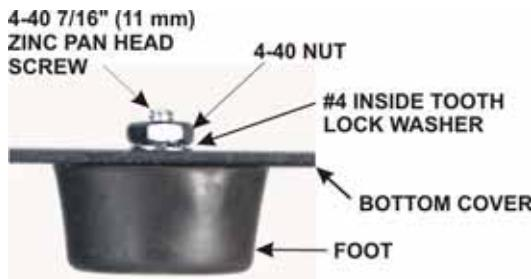

Figure 83. Installing Rear Feet.
- Check the inside surface of the bottom cover for any masking tape that may have been left from the painting process. If found, peel it off. Two of the screw holes inside bottom cover section B have **not** had the paint removed from them. These are the mounting holes for the two rear feet. Attach each foot as shown in Figure 83.